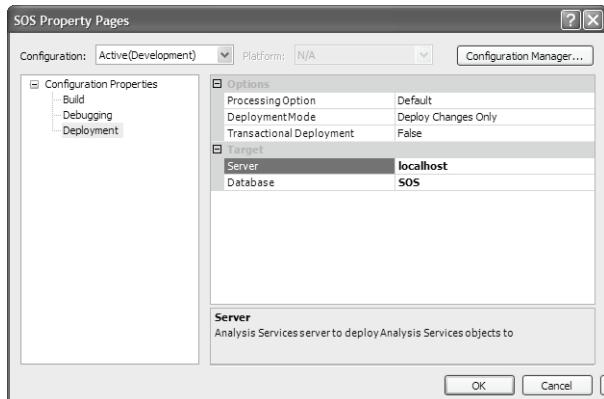

Figure 3.25 The project deployment properties specify how the cube and dimensions will be deployed and processed.
1. In Solution Explorer, right-click on the SOS project and choose Properties. Select the Deployment mode (Figure 3.25) and verify the project deployment properties.